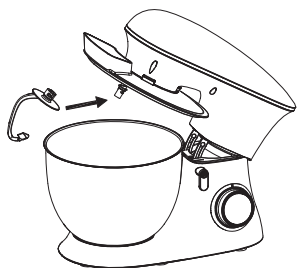
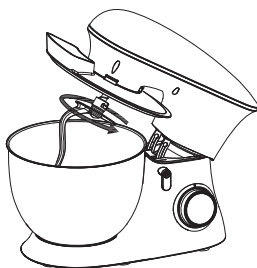

Fig. 4
Fig. 5
4. Mount the required tool (dough hook (6) or silicone beater (7) or whisk (8)) by inserting the top into the tool socket and turn counterclockwise until it locks into place. [Fig. 4 & Fig. 5]